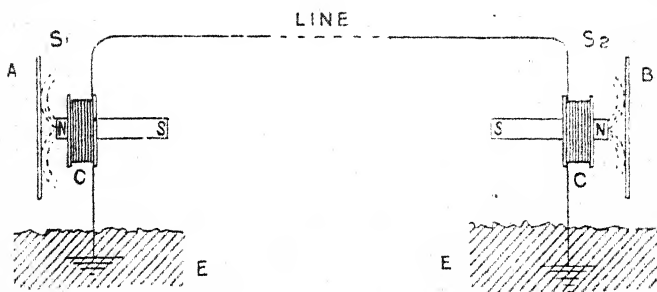

FIG. 37.
**Action.**—This instrument was used to speak into, and to hear with ; that is, it was a transmitter and receiver combined. Let us consider two of these instruments connected up, as in Fig. 37, by means of a line and return wire.